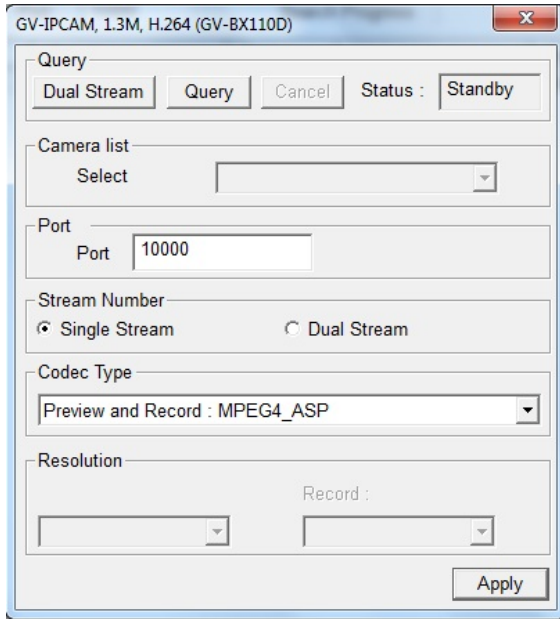

Figure 2-3
- **Preview dual stream record channel:** The option is only available when the dual stream is set, i.e. the cameras for live view and recording are configured differently (see Figure 2-3). Check this option for recording preview.